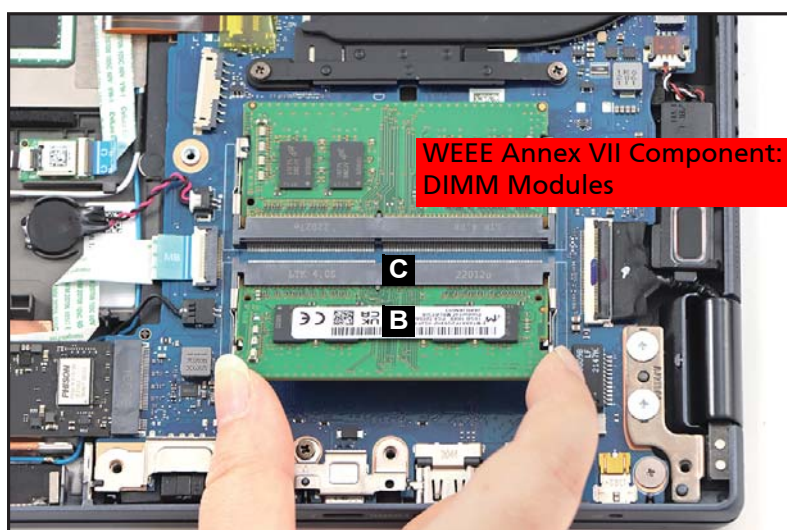

Figure 1-11. DIMM Modules Removal
2. Disconnect the DIMM module (B) from the mainboard connector (C) (Figure 1-11). Then remove the DIMM module.